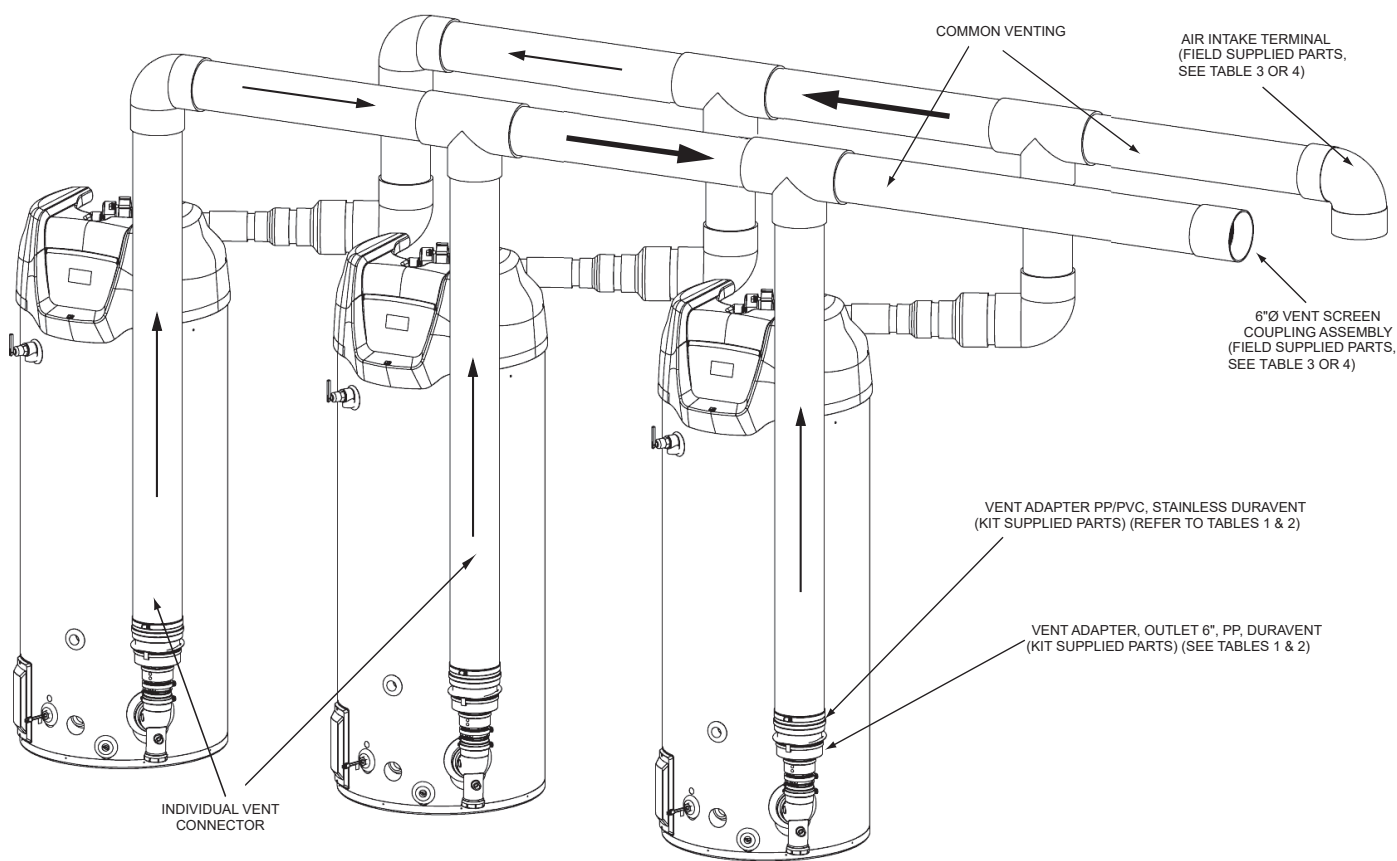
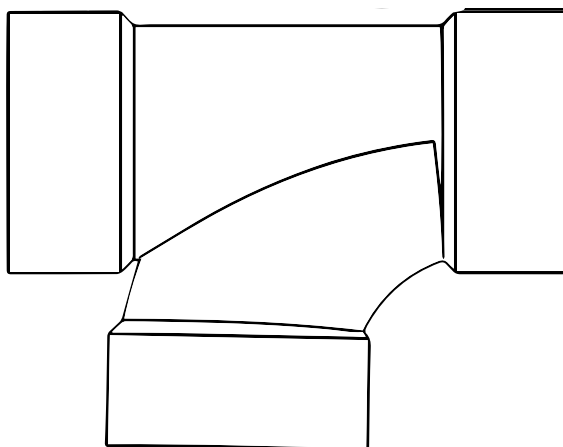

Figure 4. Definition of System Sections - PVC
Figure 5. Sanitary TEE
- No change to the system layout, as shown in **Figure 4** (page 8), except as explained in these instructions.
The common vent is the section of the vent and air inlet piping where the gases from all of the heaters flow together, See **Figure 4**. The maximum equivalent length straight pipe and elbows of the common sections is 50 feet. The minimum equivalent length of the common sections is 3 feet. Each 90° elbow is equal to 5 feet and a 45° elbow is equal to 2½ feet. The maximum number of elbows is three. The air intake terminal (90° elbow) is not included in the equivalent length.
Figure 4 shows the system constructed with straight tees. However, you can also use sanitary tees, shown in *Figure 5*, as an acceptable substitute, provided they are arranged so that the flows are in the directions indicated in *Figure 5*.
The individual vent connectors attach the heaters to the common vent. The exhaust vent connectors are attached to the water heater with the parts in the kit. The air inlet connectors are attached with PVC reducing fittings to the heater's PVC coupling. As shown in *Figure 4*, the individual vent connectors consist of vertical and horizontal sections that connect the heater outlets to the common vent. Using different lengths of pipes, the height of the horizontal sections may be adjusted to be from 80" to 110" from the bottom of the heater to the center-line of the horizontal section. The combustion air and exhaust vent sides of the system may be different heights, but each must meet the 80" to 110" height requirement.
The common sections are the pipes that carry the vent gas or intake air to and from the outside. Each pipe must extend from the tee over the heaters to the outside/ outdoors etc. It is preferred to run the air and vent sections next to each other, over a similar path as shown in **Figure 4** (page 8). However, differences may be needed in the field. The requirements for both the air intake and vent common sections are: